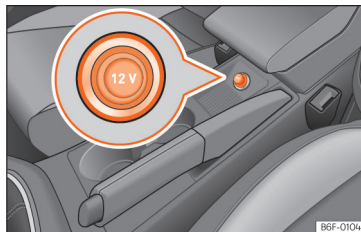

Fig. 126 Front power socket.
- Remove the plug from the socket located in the centre console »»» **Fig. 126**.